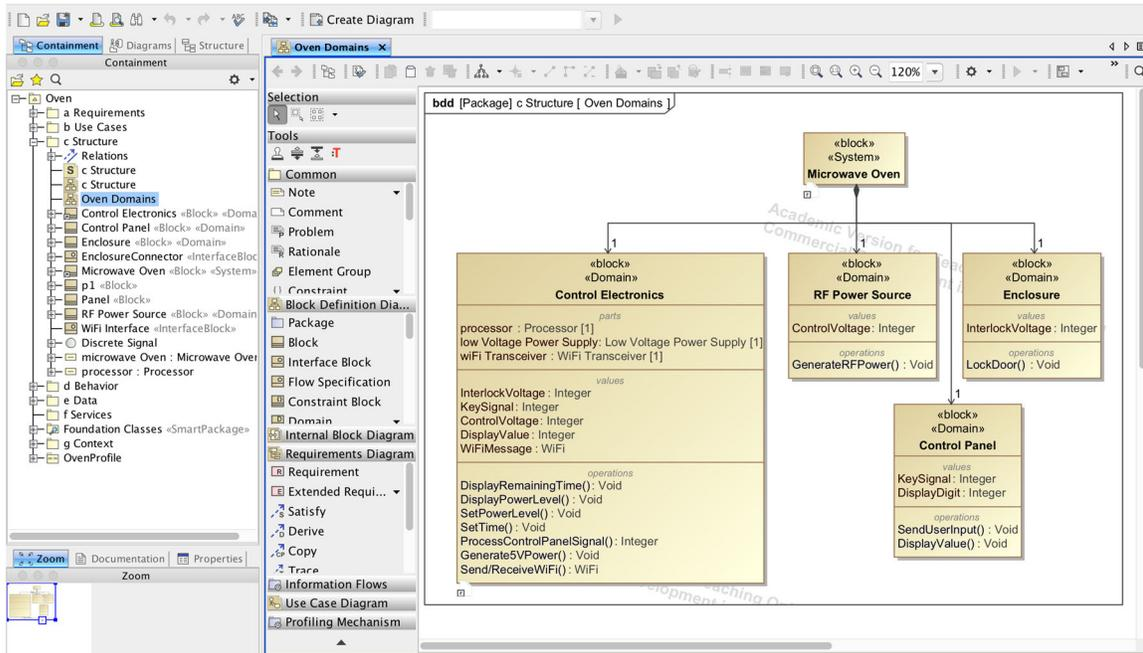
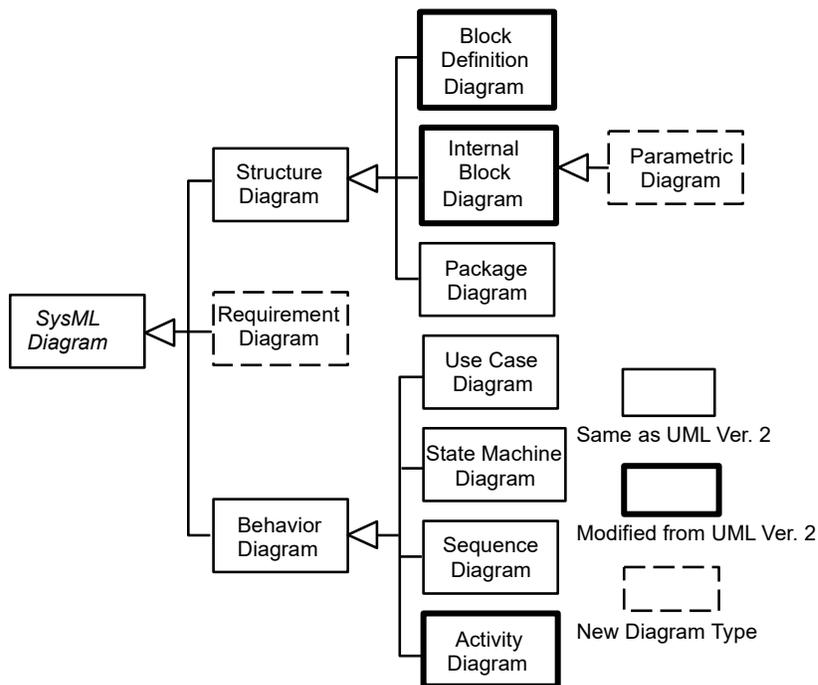

Figure 2. Cameo Desktop.
Figure 3. SysML Diagrams with Their Relationships to UML
- B. Once a model is open, the screen is partitioned into panes. Fig. 2 is a screenshot from the model of an architecture for a microwave oven that is used as an illustration in this tutorial. The main areas are:
- SysML can be thought of as a graphical programming language. The basic constructs of a model are Structural and Behavioral Diagrams, and the tool facilitates building these as shown in Fig. 2. Fig. 3 shows the tree of SysML Diagrams.